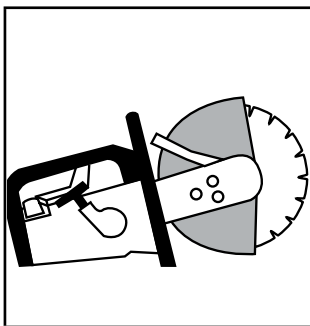

Figure 24. Cut-off saw
- **Power Saws (Diamond Blade or Abrasive Blade).** (Figure 24) They are very fast and provide precision cutting and excellent mobility. However, they are very dusty. They are normally gas powered, with engines similar to those used for chain saws.